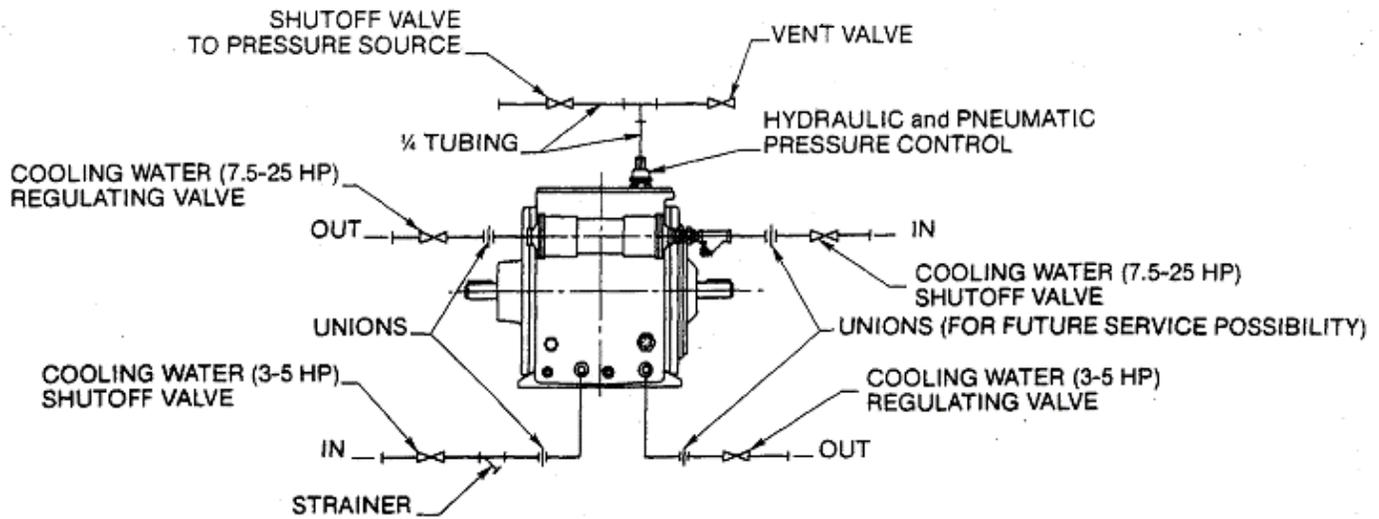

Figure 2. Recommended Piping
HEAT EXCHANGER CONNECTIONS: (see Figure 2)
1. Hydraulic Control: Locate the pressure sensing source midway on a straight run section of discharge pipe that is a minimum of 12 pipe diameters in length. Connect a 1/4 inch (6mm) minimum O.D. pressure sensing line between the Hydroconstant pressure control (see Figure 2) and the pressure source on the pump discharge. Make or furnish provisions for bleeding entrapped air from the pressure sensing line. The pressure control is rated at 250 psi (1720 kPa) maximum working pressure and 250°F (121°C) maximum working temperature and is not suitable for corrosive liquids.
2. Pneumatic Control: connect a 1/4 inch (6mm) O.D. air line between the Hydroconstant pressure control and the air signal process controller (see Figure 2).